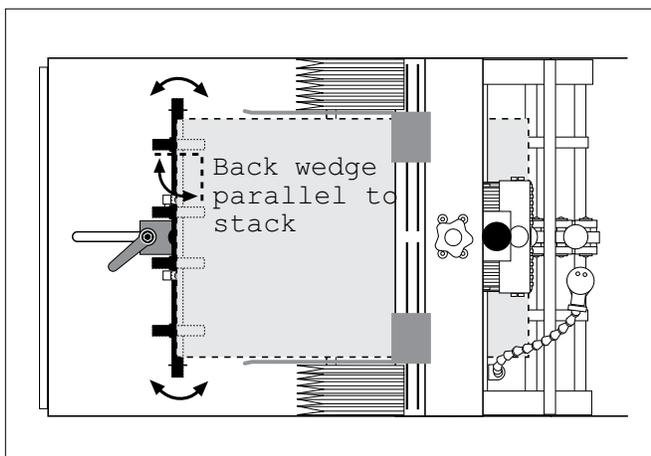
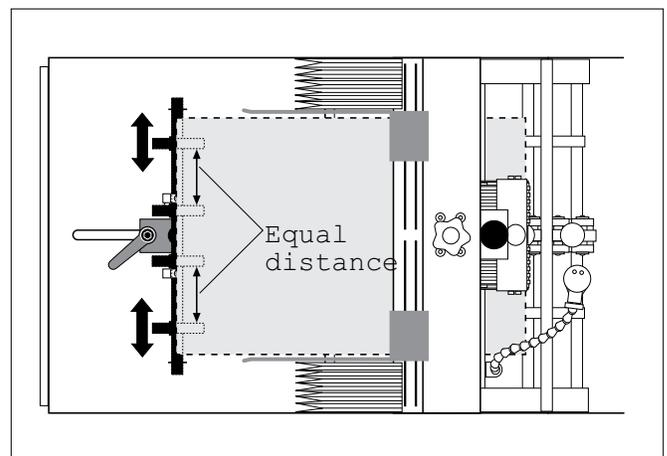

**Figure 3-11. Adjusting Back Wedge for Proper Lift**
**Figure 3-12. Adjusting Roller Position**
4. Move the back wedge forward and backward until the bottom sheet is not touching the table top (Figure 3-11). A good starting point is to measure about 5/8 in. (16 mm) from the bottom sheet to front edge of table top. Then as you test, you can “fine tune” from this point. You can also fine tune back wedge location by loosening the roller swivel wing-nut to pivot the rollers back and forth (Articulating Roller Wedge only (Figure 3-12).